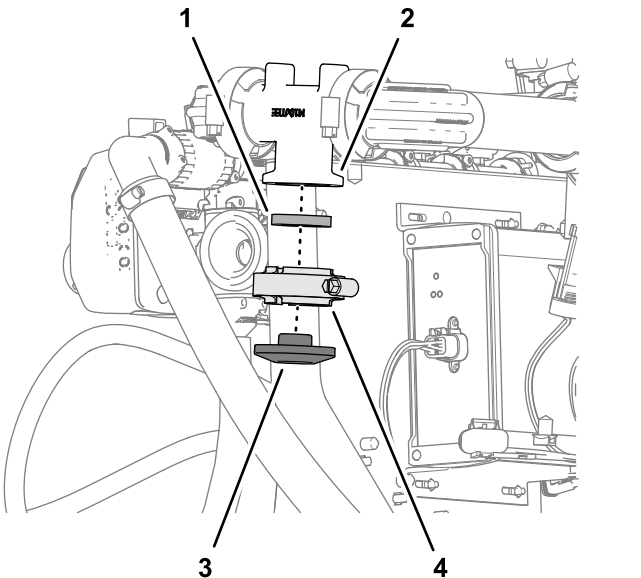

**Figure 137**
1. Remove the flange clamp the gasket that secure the plain cap to the flange of nozzle valve 10 (Figure 137).
- Remove the flange clamp and gasket that secure the cap and tube fitting to the flange of the flow meter manifold (Figure 137).